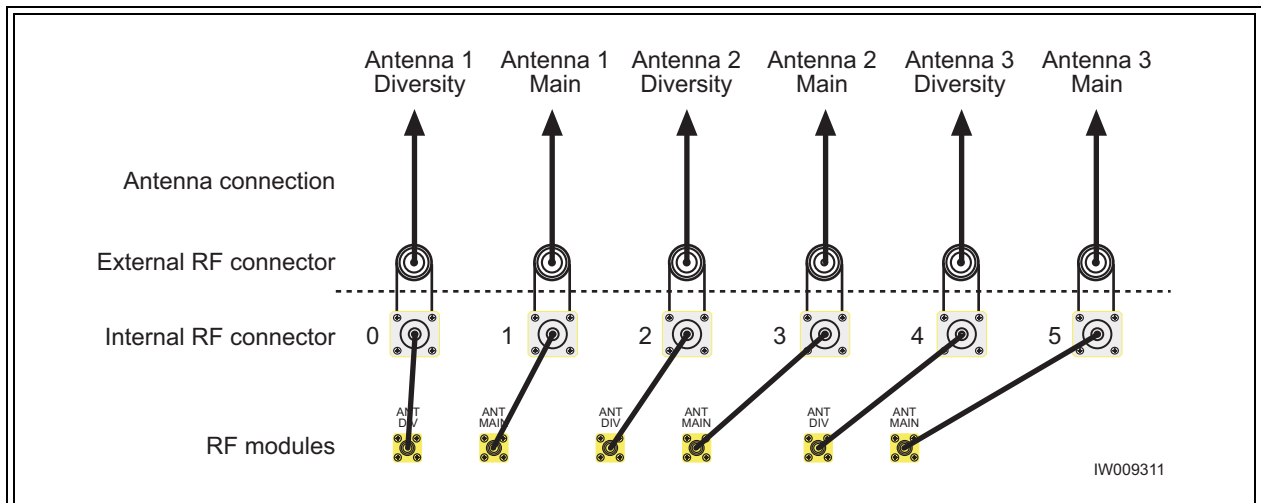

Figure 2-22 Antenna Cabling for S111 Configuration
- Connect your antennas as shown in Figure 2-22.